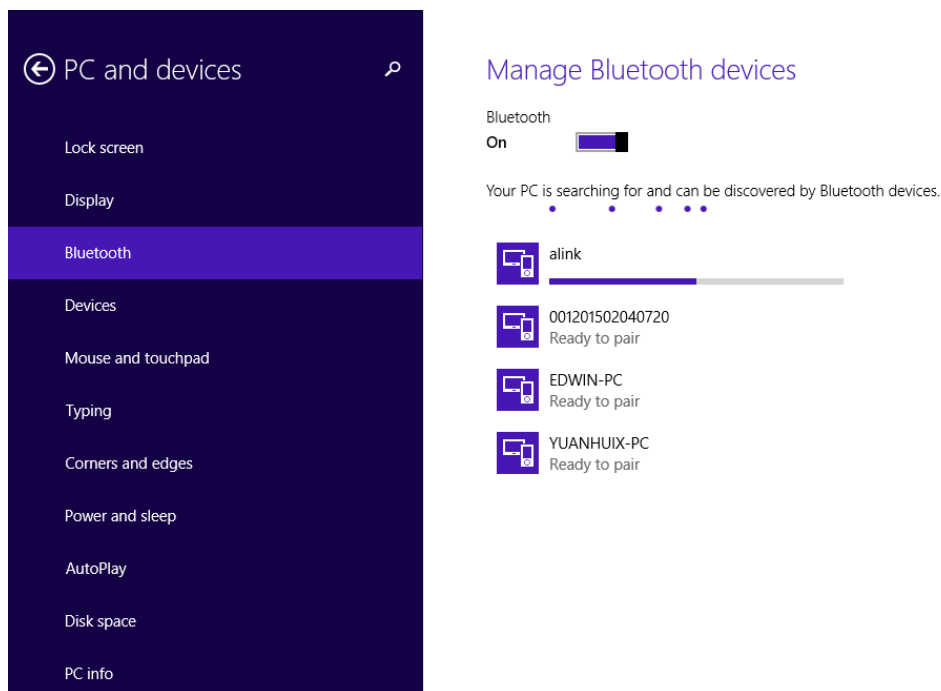

Figure 13 Connecting
Step 4: A progress bar will appear as connecting, shown as Figure 13.